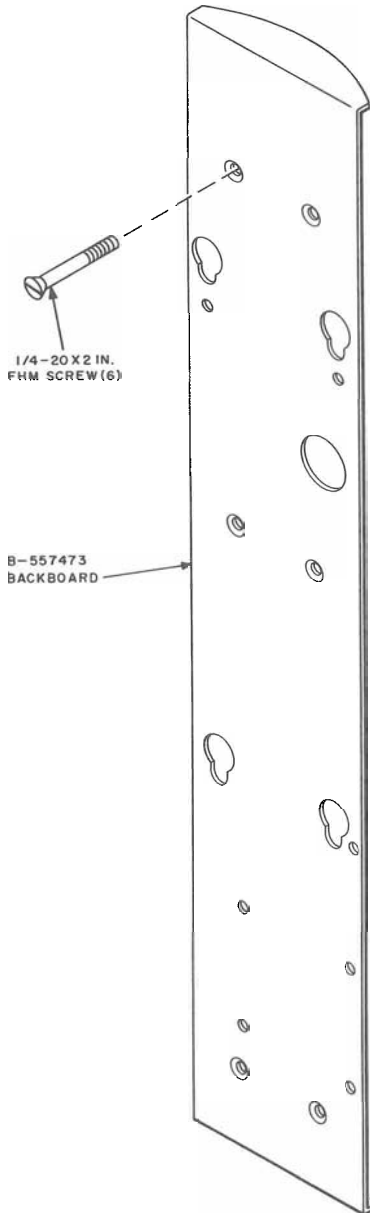

Fig. 4—KS-19206, List 7 Coin Telephone Set Installation Kit
**3.17** *List 7 Kit:* Install KS-19206, List 7 kit in accordance with Fig. 4.